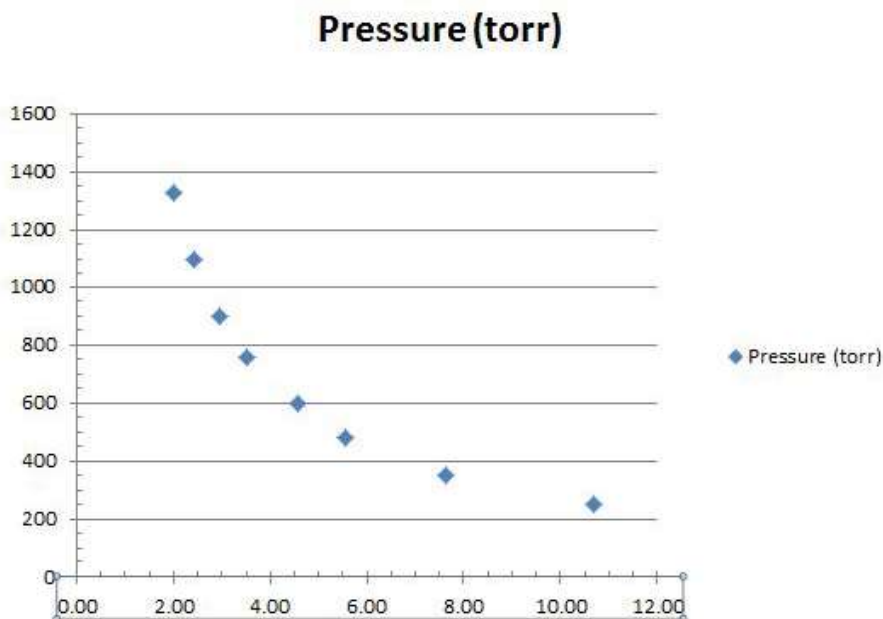

Figure 8.11: Scatter plot with new x and y axis marks. credit author
- Now change the x-axis values (using what you have just learned) to label the axis every 2 units with a minor tick mark every 0.5 units. Change the labels on the axis to reflect the precision of your data (to the hundredths). This can be accomplished by changing the number format in your graph from "general" to "number" and choosing to display the numbers to 2 decimal places. The resulting graph should now look similar to what is shown below in Figure 8.11.